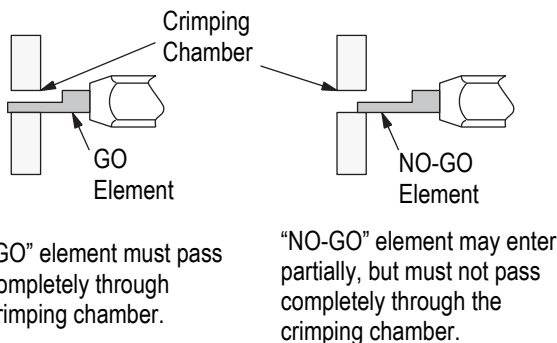

Figure 5
This inspection requires the use of plug gages conforming to the dimensions shown in Figure 5. Tyco Electronics does not manufacture or market these gages.
3. Align GO element with wire barrel crimping section. Push element straight into crimping chamber without using force. The GO element must pass completely through the chamber as shown in Figure 5.